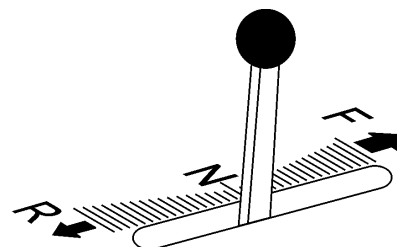

Figure 34. Speed Lever (Neutral Position)
- Disengage the drive by placing the forward/reverse speed lever (Figure 34) in the **NEUTRAL** position.